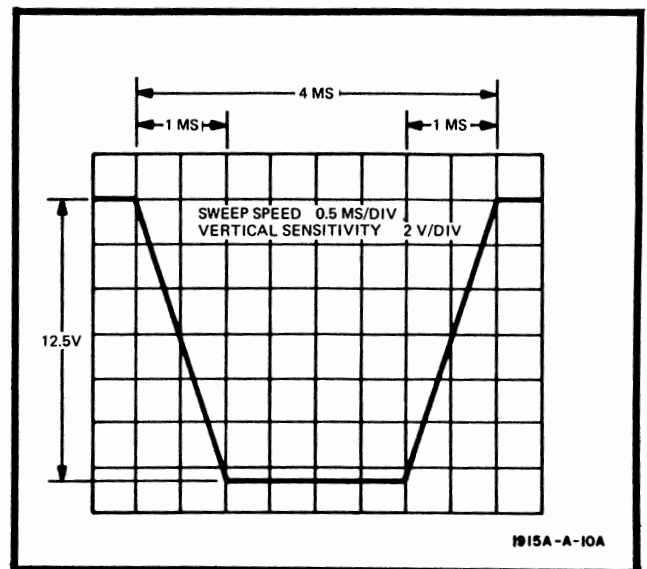

Figure 5-12 Negative Overload Setup Pulse
- e. Set Model 1915A WIDTH vernier, LEADING EDGE and TRAILING EDGE controls to obtain the display shown in Figure 5-12.